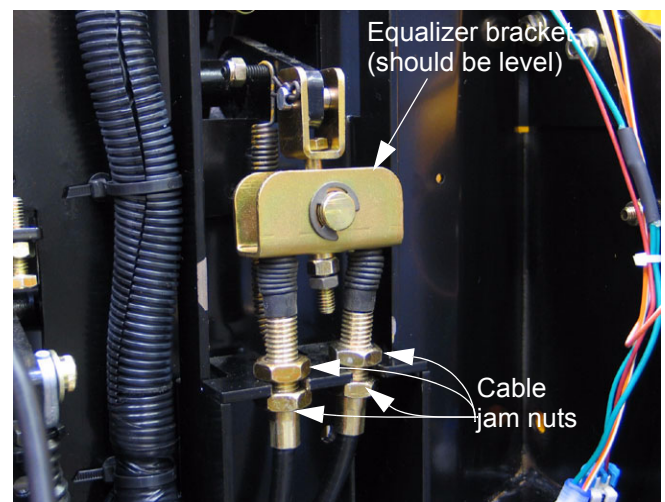

Figure 3.1
- 3.1. Adjust the large nuts on the brake cable ends to draw any slack out of the cables, and to maintain the equalizer bracket in a horizontal position using two 7/8" open end wrenches. See Figure 3.1.